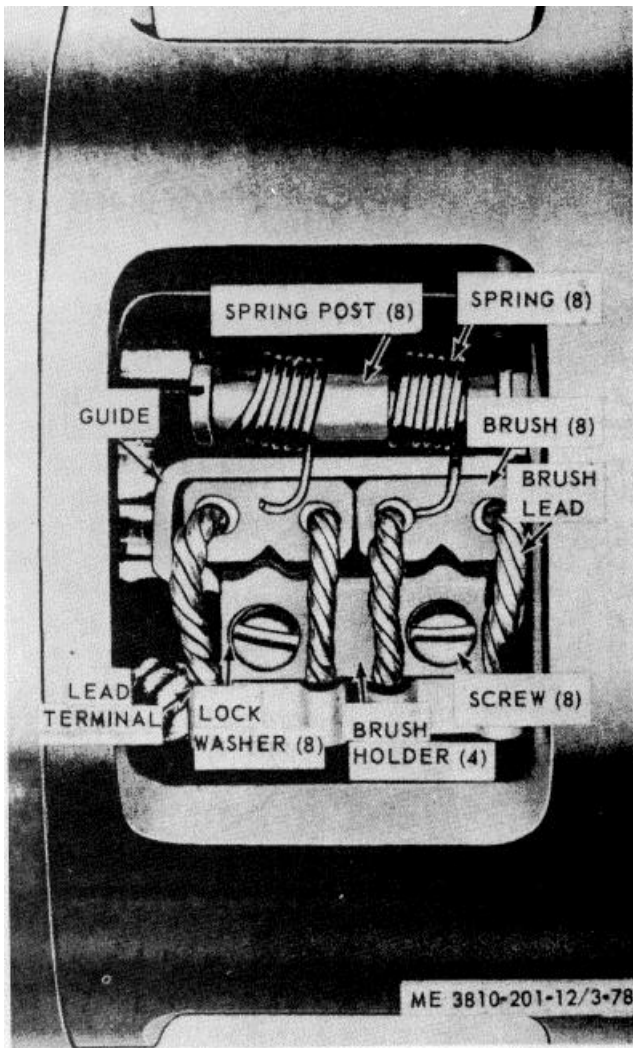

Figure 3-78. Starter motor brush replacement
(3) Refer to figure 3-78, remove screw and lockwasher from brushholder.
(4) Remove brush from guide by pulling outward on brush lead.
(5) Install new brush by first lifting outward on brush springs.
(6) Insert brush into guide, push it down into contact with commutator, and let spring down on top of brush.
(7) Seat brush so it has perfect surface contact with commutator.